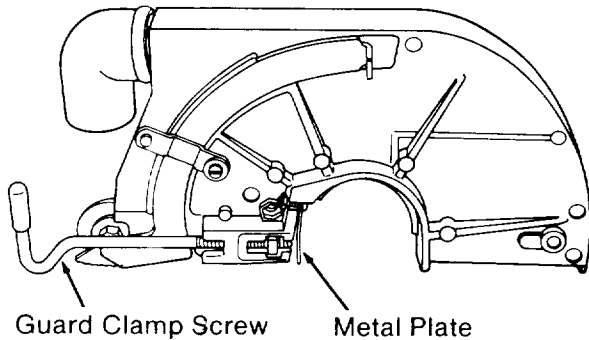

Fig. 89
1. Loosen the *guard clamp screw* until it no longer touches the *metal plate*. (Figure 89)